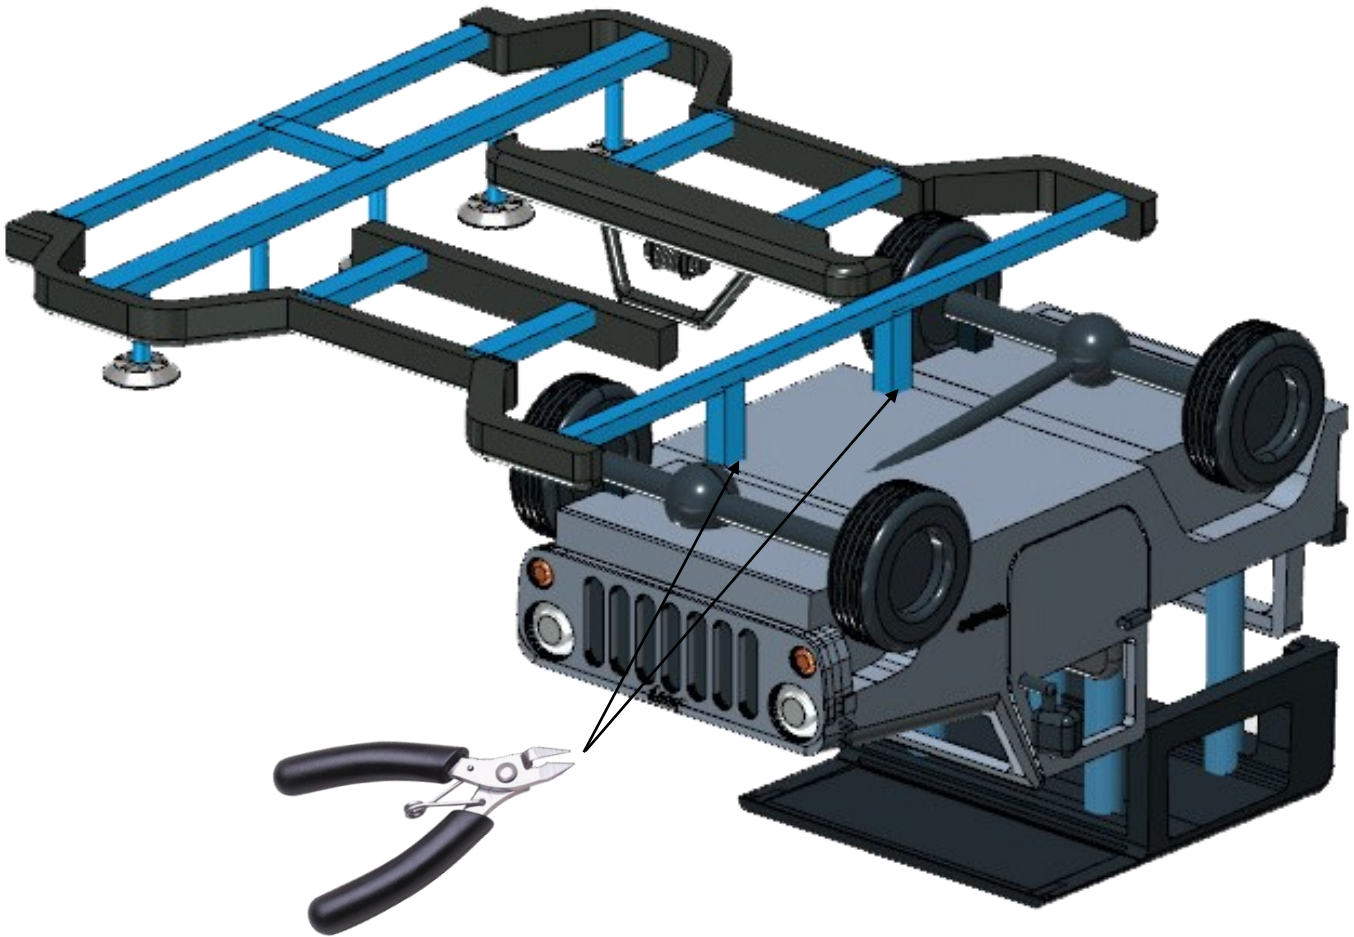

Figure-1
- Refer to Figure-1, above, and cut both sprues that connect the Jeep body and the accessory group as closely as possible to the bottom of the Jeep.